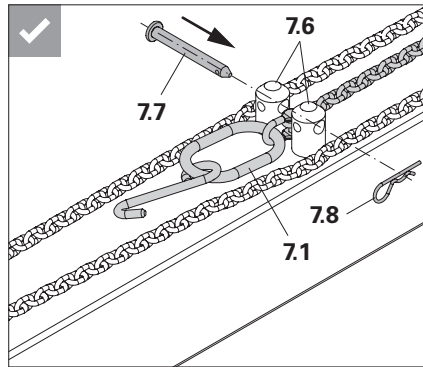

Fig. A3.10
- Ring 1 (7.1) is positioned in front of both spigots (7.6). (Fig. A3.10)
7. Insert pins (7.7) through the holes of both spigots (7.6). (Fig. A3.10)
8. Insert the cotter pin (7.8) through the hole in the pin (7.7). (Fig. A3.10)
Is the chain (7.9) positioned between the two spigots (7.6)? (Fig. A3.10)